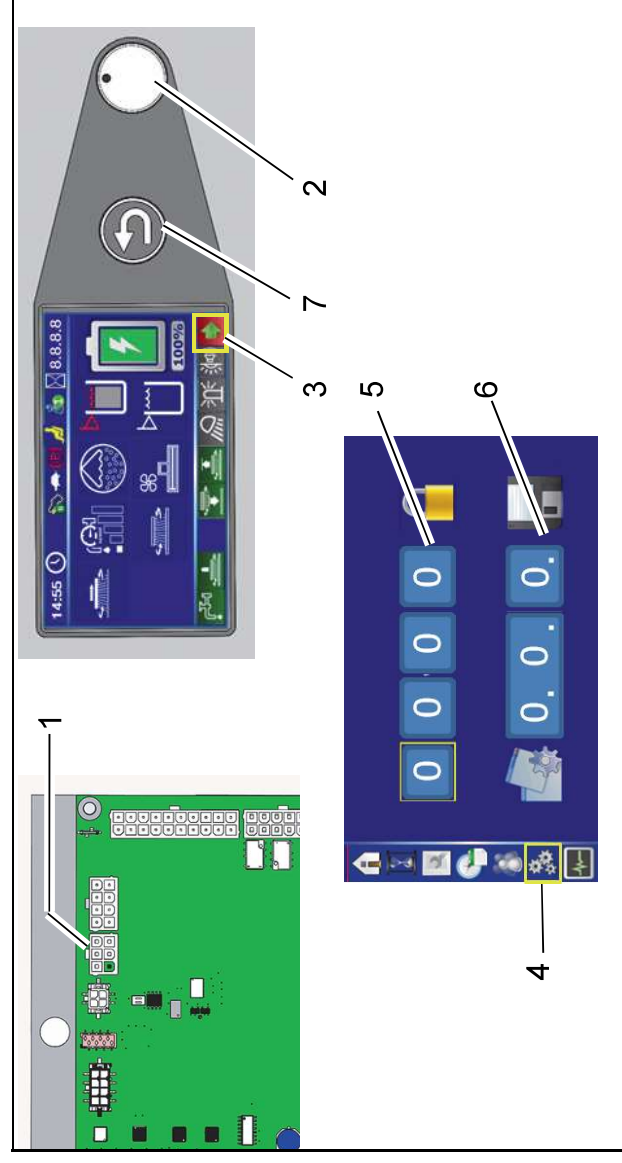

Fig. 3
Connect diagnosis plug to slot X20 of controller A1 (Fig. 3/1).
2. Select the arrow soft key (Fig. 3/3) on the control panel using the turn-push knob (DDS)(Fig. 3/2) and press to access the sub-menu.
3. Select the configuration menu in the sub-menu (Fig. 3/4).
4. Enter the 4-digit code in the configuration menu at the top (Fig. 3/5):
5. Select the value of the option under (Fig. 3/6) in the configuration menu and save by pressing the DDS. After confirming the last digit, OK? appears. Press DDS again to save the value. Saved value is displayed in green. If the value is not to be saved, exit menu using the return key (Fig. 3/7).